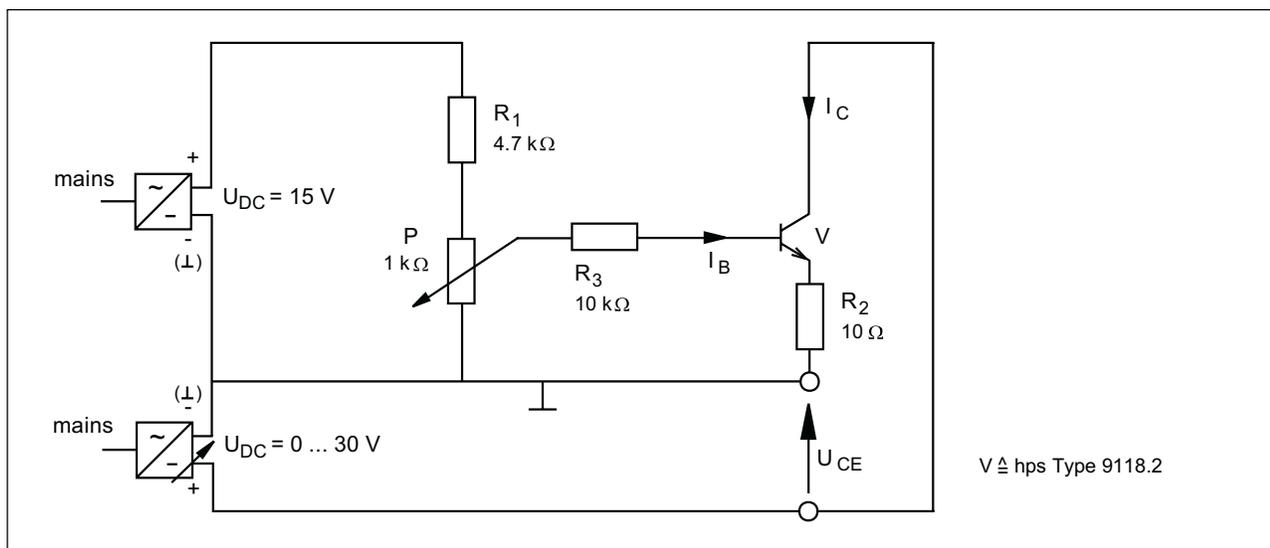

Fig. 4.3.2.3
- Then modify the circuit according to Fig. 4.3.2.4. Measure the base/emitter voltages  $U_{BE}$  with varying base currents  $I_B$  and collector/emitter voltages  $U_{CE}$ , according to Table 4.3.2.4. Enter the values in Table 4.3.2.4. Plot a graph showing the dependence of the base/emitter voltage on the collector/emitter voltage  $U_{BE} = f(U_{CE})$  with varying base currents in the fourth quadrant of the diagram (Table 4.3.2.5).